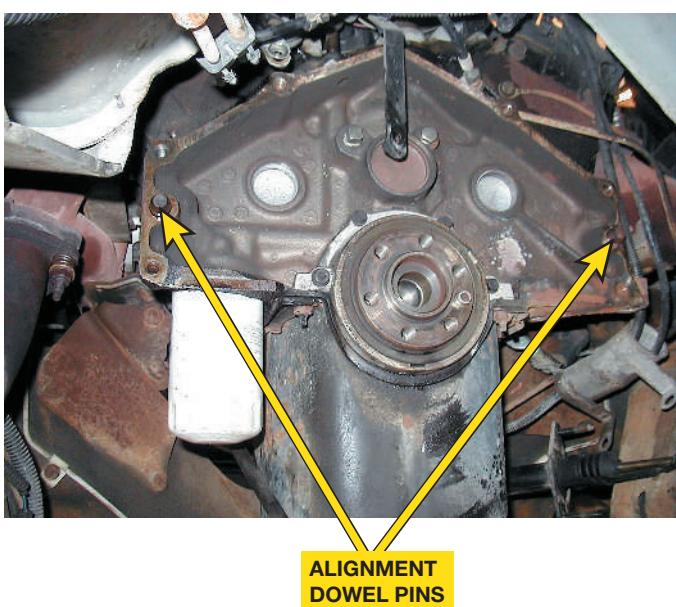

FIGURE 35-2 Bell housing alignment dowel pins are used to ensure proper alignment between the engine block and the transmission.
- STEP 3** The engine bell housing is put on the engine, if it was not installed before. The alignment of this type of bell housing is then checked. **SEE FIGURE 35-2.**